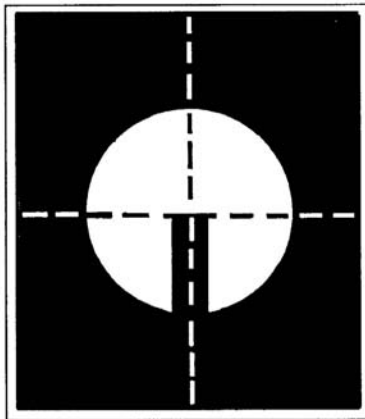

Figure 071-313-3454-6. Correct sight alignment
- b. Sight picture. Place the top center of the front sight blade at the bottom center of the intended target (figure 071-313-3454-7).